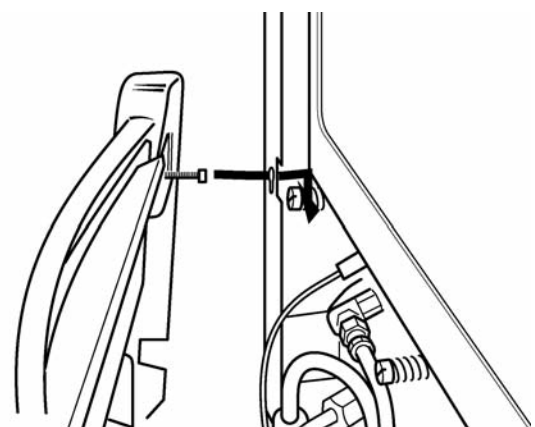

Figure 36. Fire front casting location
- Lower the casting so that it rests on the hearth (See figure 36).